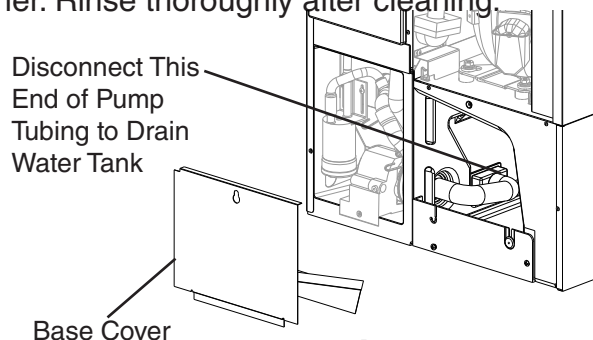

Fig. 6
- 3) Remove the base cover, then disconnect one end of the pump tubing to drain the water tank. See Fig. 6. After the water tank has drained, reconnect the pump tubing.